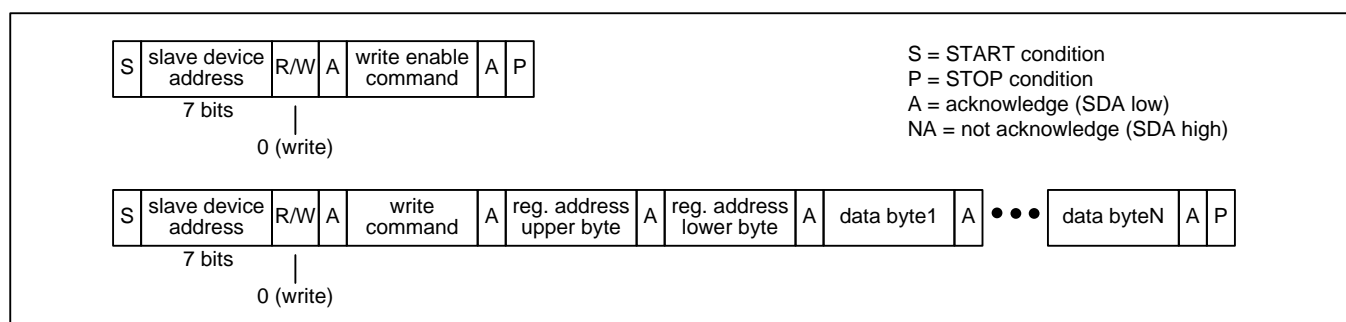

Figure 11 - I²C EEPROM Write Transaction Functional Timing (ZL30265 and ZL30267 Only)
**EEPROM Writes (ZL30265 and ZL30267 Only).** The EEPROM memory is accessible when the EESSEL bit is 1. The bus master first does an I2C write to transmit the SPI Write Enable command (see Table 3) to the device. The bus master then does an I2C write to transmit data to the device as described in the Register Write Transactions paragraph above. See Figure 11.